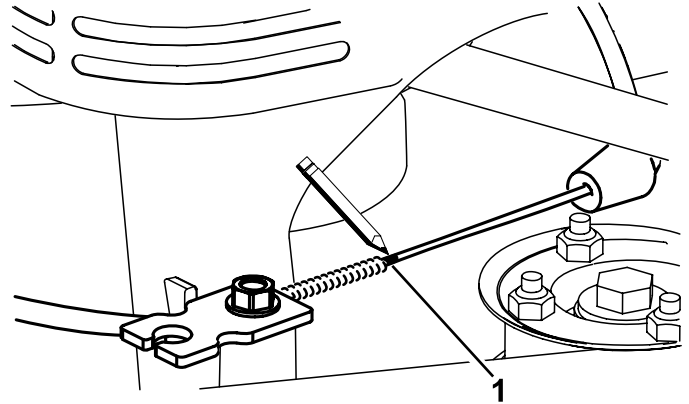
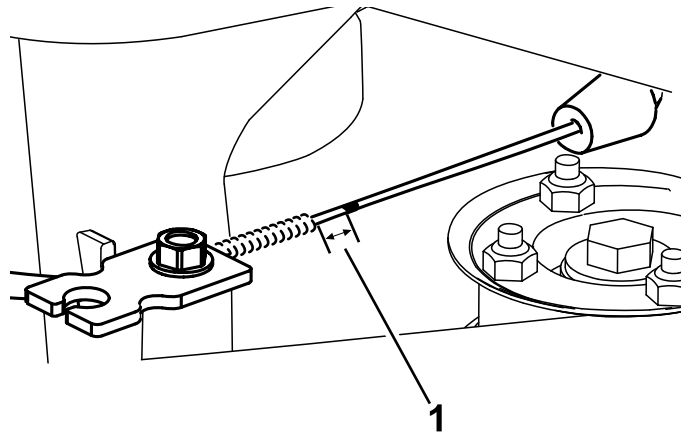

Figure 16
Figure 17
10. Mark the brake cable (**Figure 16**), then adjust the jacket until there is approximately 3 mm (1/8 inch) of slack (**Figure 17**).